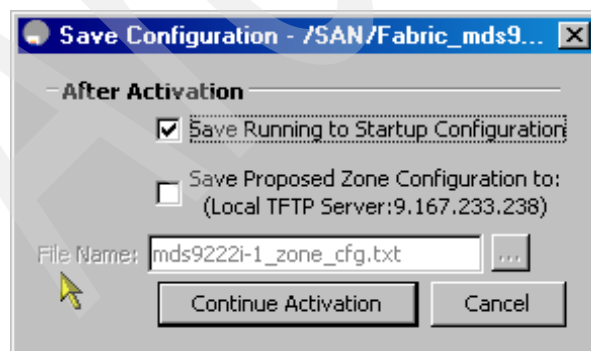

Figure 6-70 Zoneset activation
6. When prompted to save the running configuration to the startup configuration, and alternatively to a config file, click **Continue Activation** to activate the configuration, as shown in Figure 6-70.